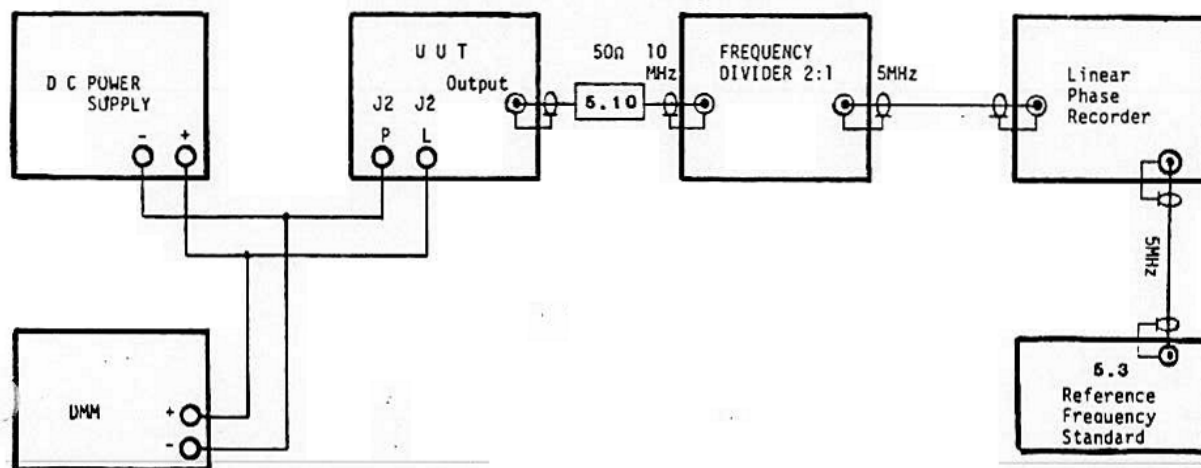

Figure 5.3. Long-Term Stability Test Setup.
- 5.11.1 Connect the equipment as shown in Figure 5.3.